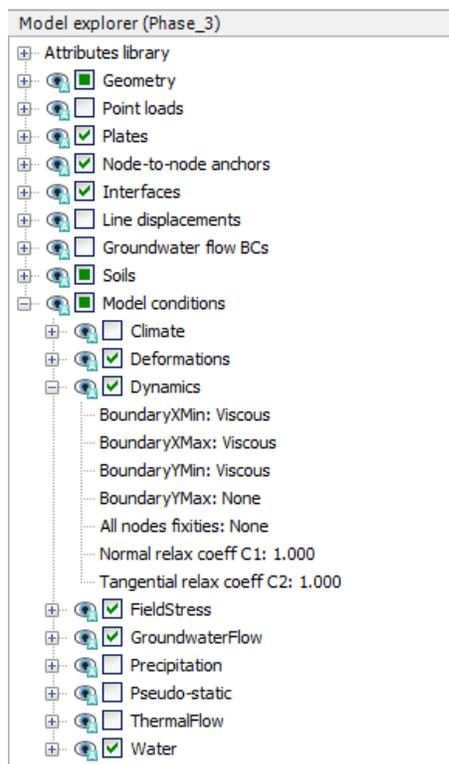

Figure 221: Boundary conditions for dynamics calculations
6. Expand the **Dynamics** subtree. Check the boundary conditions **BoundaryXMin**, **BoundaryXMax** and **BoundaryYMin** are viscous which is shown in Figure 221 (on page 252).